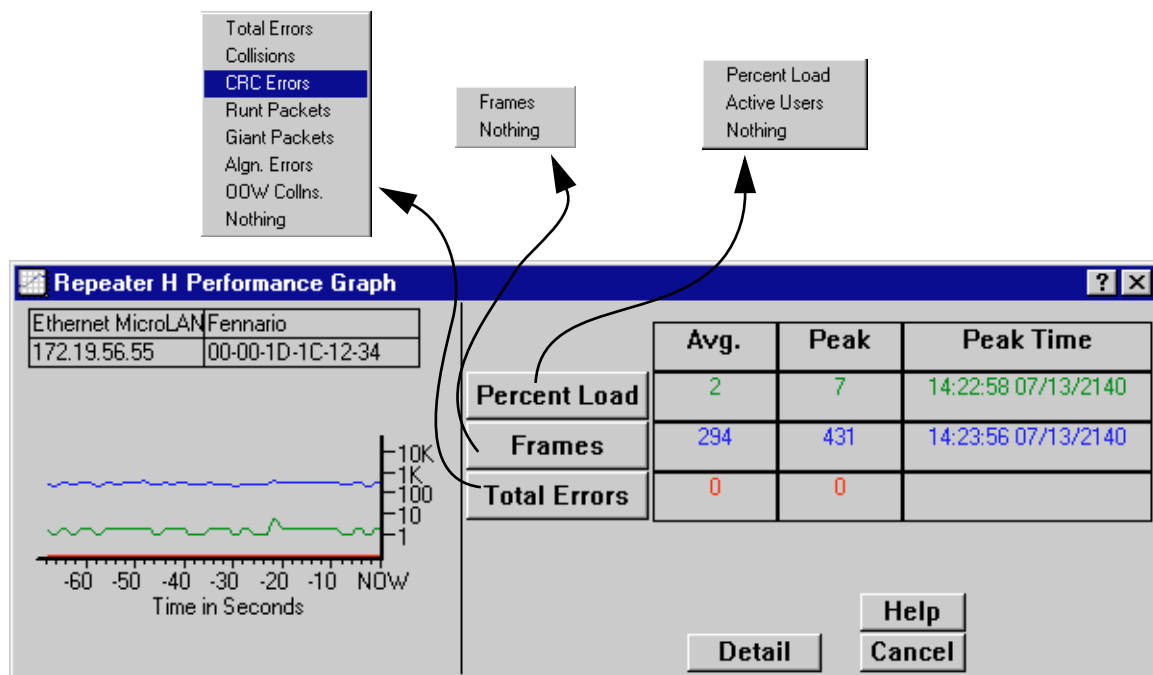

Figure 5-4. The Repeater Performance Graph Window
3. Click on **Performance Graph**. The Performance Graph window, Figure 5-4, will appear.
The Board and Port Performance Graph windows are similar to the Repeater Performance Graph window displayed in Figure 5-4, except that they display statistics applicable to the board or port level.